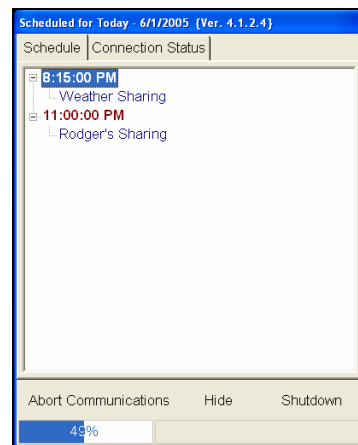

Figure 3.1.4
- If you click on the “+” signs next to the times the task name will appear directly under the time stamp. Clicking on the “-” key next to the Task name will shrink the task back to a time only (Figure 3.1.4).